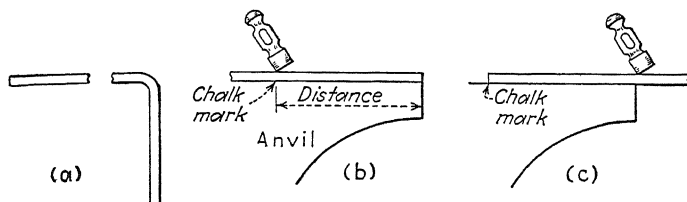

FIG. 255.—Laying off the length for a bend.
**313. Bending Eyes.**—When it is required to forge an eye on the end of a rod or bar, enough of the piece to form the eye is bent at a right angle having nearly a square corner, as shown in *a* (Fig. 255). This amount is equal to the mean circumference of the eye, as explained in Art. 311.
When a center-punch mark to lay off the distance would injure the finished job, the smith makes a chalk mark on the anvil a distance from the end of the anvil equal to the length required for the eye. When the work is heated, ready to bend, it is laid along the anvil with the end of the work flush with the end of the anvil, as in *b* (Fig. 255), or flush with the chalk mark, as in *c* (Fig. 255), whichever is preferred. Then